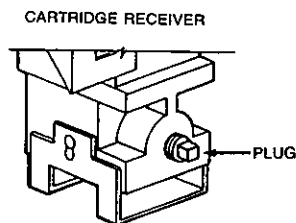

FIGURE 63
3. Remove plug from cartridge receiver. See Figure 63.